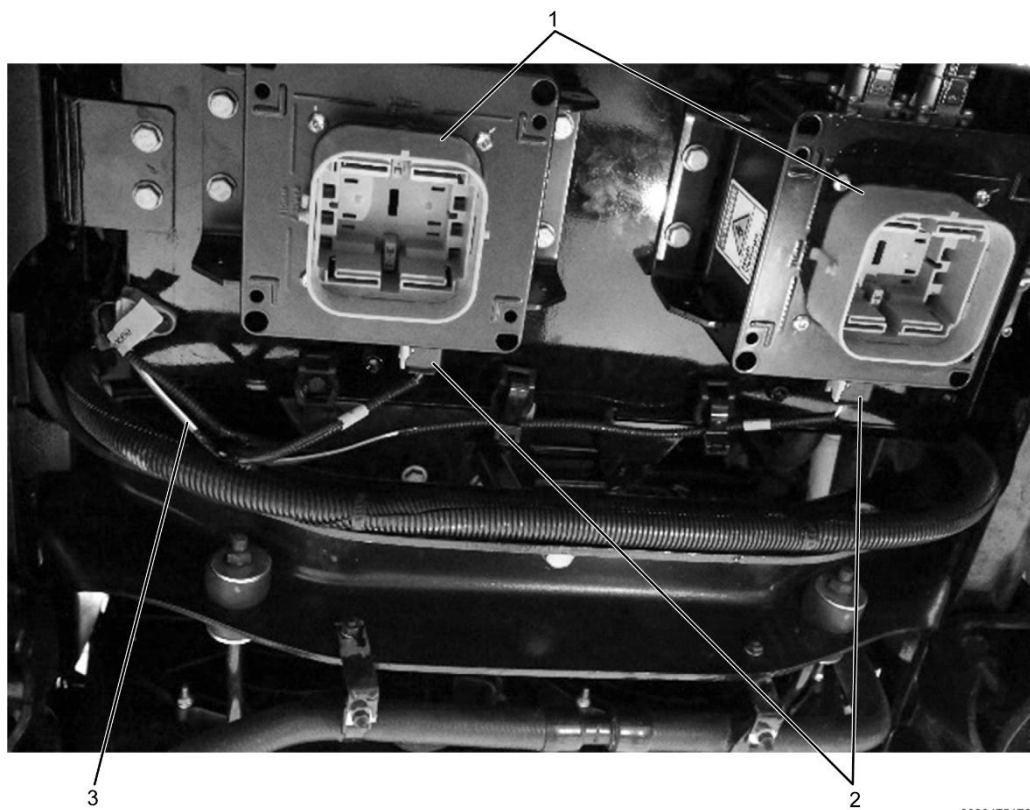

Figure 8. Jumper Harness Route (MSD Location)
1. MSD base (2)
2. Connector (2)
42. Connect jumper harness connectors (Figure 8, Item 2) to MSD base (Figure 8, Item 1).
43. Secure jumper harness (Figure 8, Item 3) to existing VCU harness and along edge of MSD bracket plate. Attach tie strap at 6-inch (150 mm) intervals.